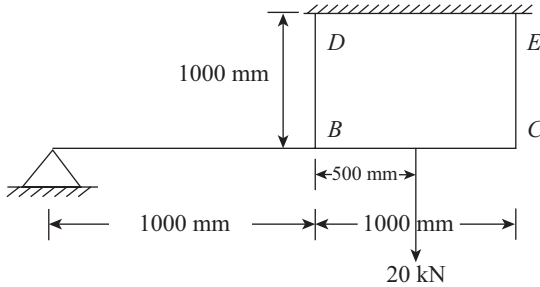

Figure 2.26
- 2.10 Figure 2.26 shows a rigid bar ABC hinged at A and suspended at two points B and C by two bars BD and CE , made of aluminium and steel, respectively. The bar carries a load of 20 kN midway between B and C . The cross-sectional area of aluminium bar BD is 3 mm^2 and that of steel bar CE is 2 mm^2 . Determine the loads taken by the two bars BD and CE .